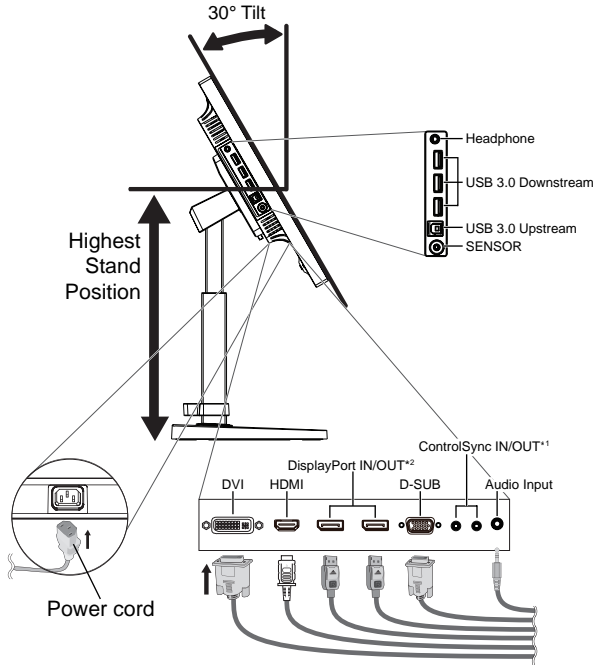
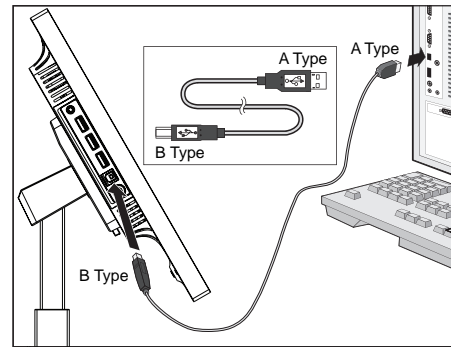

Figure C.1
Figure C.1a
- Connect all cables to the appropriate connectors (**Figure C.1**). When using the USB cable, connect the B type connector to the USB upstream port on the right back side of the monitor and the A type connector to the downstream port on the computer (**Figure C.1a**). If using the cord from a USB device, plug into the downstream port of the monitor.
- When using an optional sensor, connect the stereo micro plug cable to the SENSOR (**Figure C.1**).